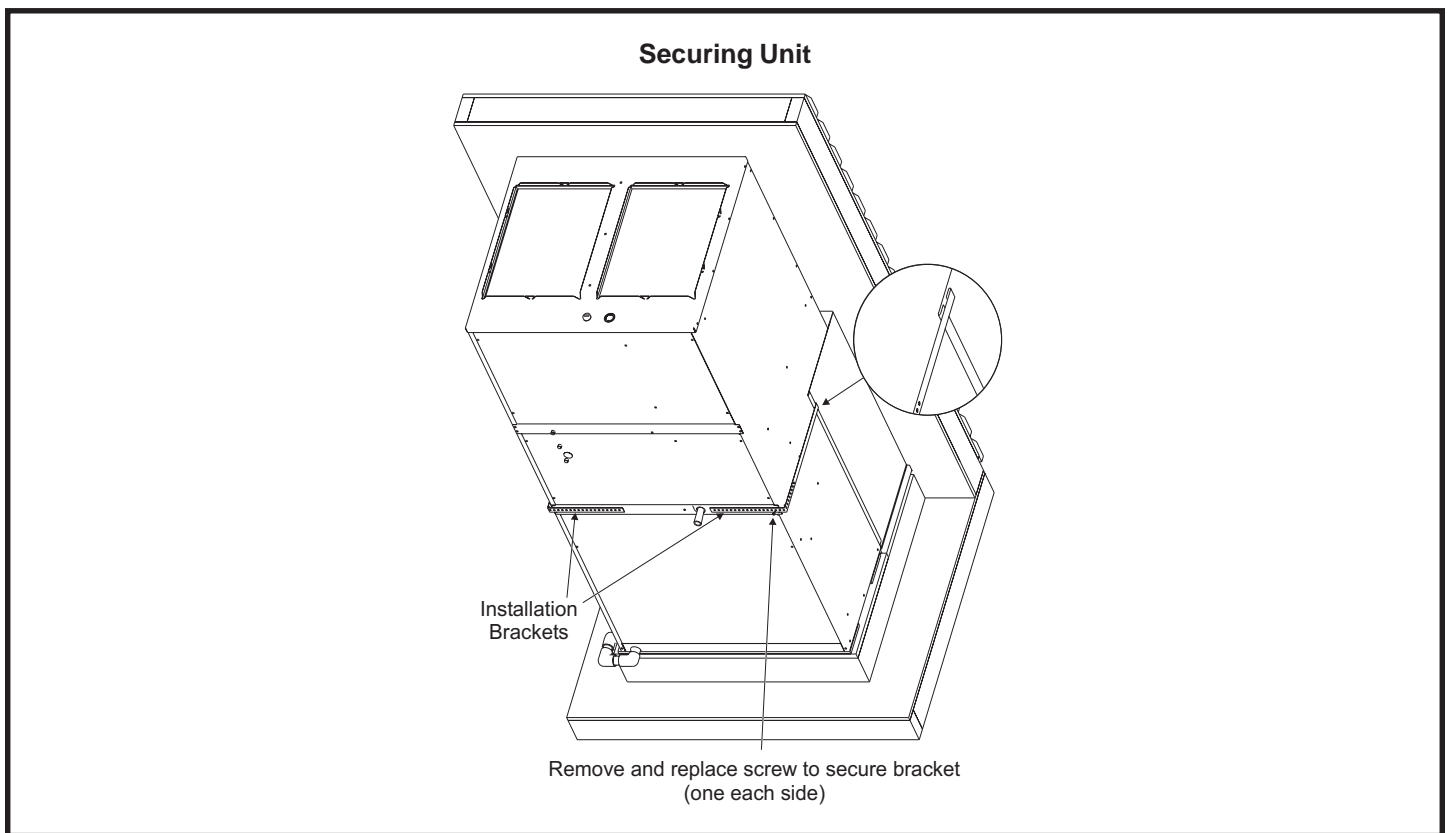

Figure 6
4. Use the two installation brackets to secure the unit to the wall sleeve (see Figure 6). The units are shipped with the brackets placed loose on the unit top panel, beneath packaging. Hook each bracket into the front edge of the wall sleeve side. Position the bracket so it can be bent around the front corner of the unit. Remove one of the two screws in that position on the unit. Line up one of the holes in the installation bracket with the screw hole and attach the bracket to the unit with that screw. Make sure to fasten tight enough that the seal is maintained. Trim off excess bracket if applicable.